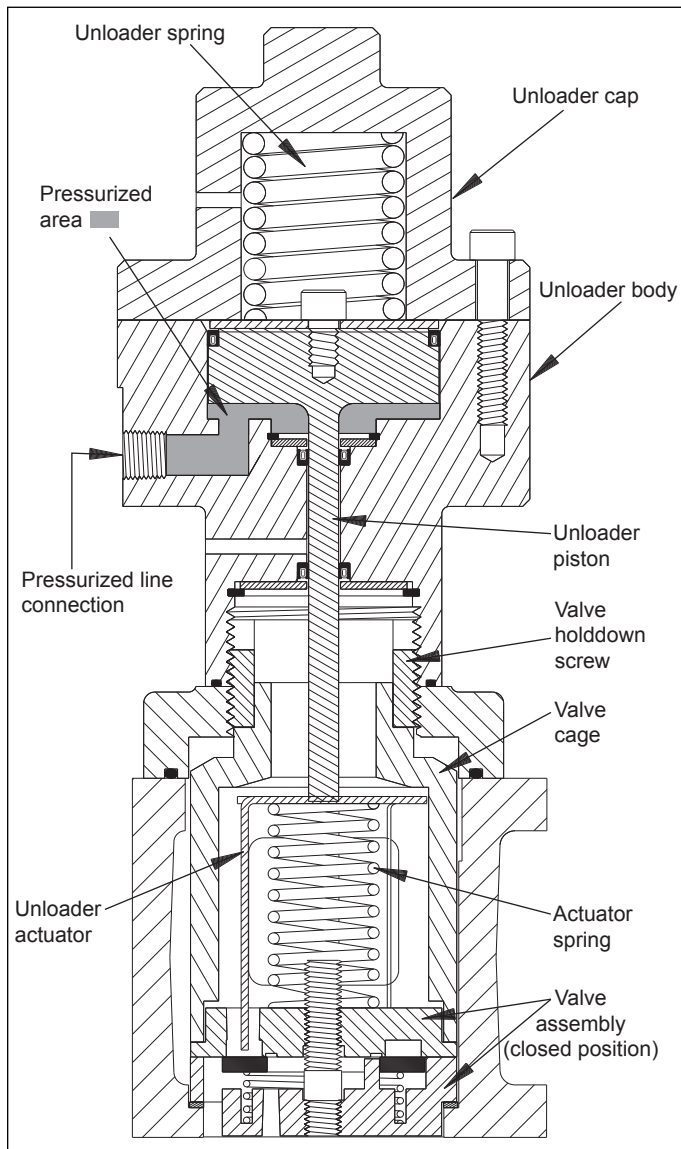

Figure 4.1.1: Reverse unloader assembly for valve specification 6P.
**The reverse unloader shown below is pressurized. A pressurized reverse unloader means the suction valves are closed so the compressor is in a loaded condition. Conversely, a depressurized reverse unloader means the suction valves are held open so the compressor is in an unloaded condition (see Figure 4.1.1 for details).**